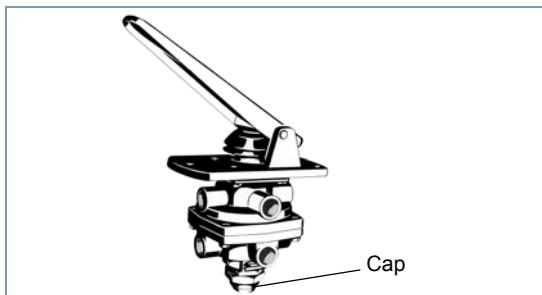

Fig. 8 Position of cap in the device
- Adjust exact pressure with the cap (see fig. 8).